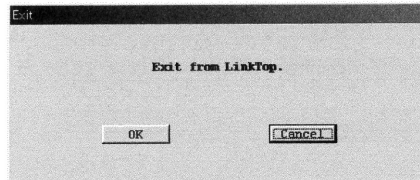

Fig.14
To exit the LinkTop, click on "File (F)" at top-level menu of the screen, select "Exit (E)," and click on again. A message box as shown in Fig. 14 appears. If you are sure to exit the LinkTop, click on "OK" button. Clicking on "OK" button will cause the application window to disappear from the desktop. To abort the terminating process, click on "Cancel."